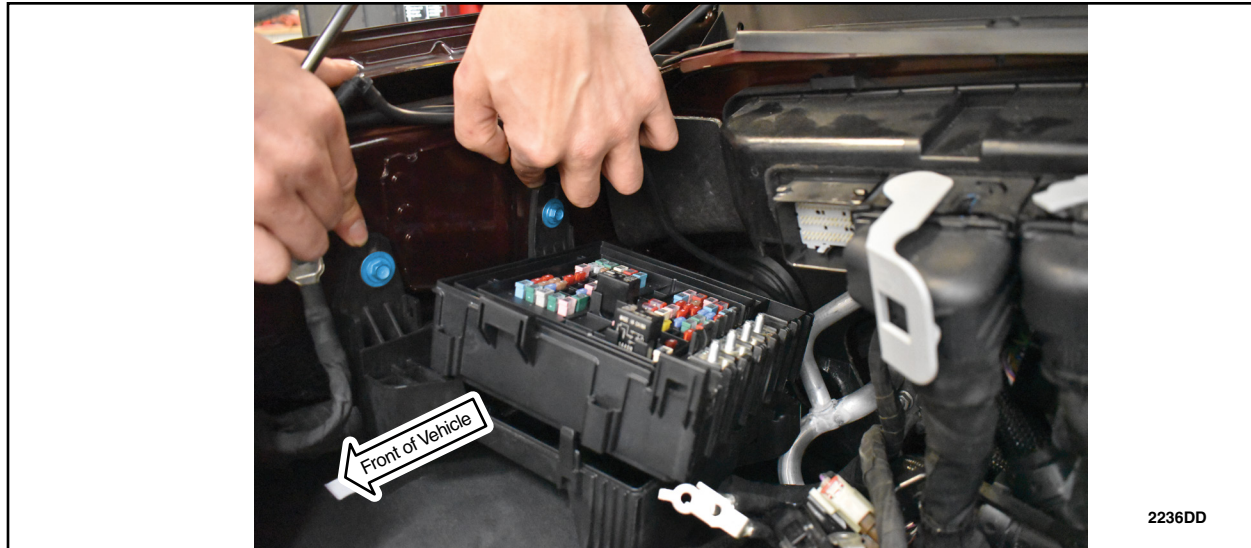

FIGURE 9
10. Remove the fasteners for the bottom cover of the BJB. See Figure 9.